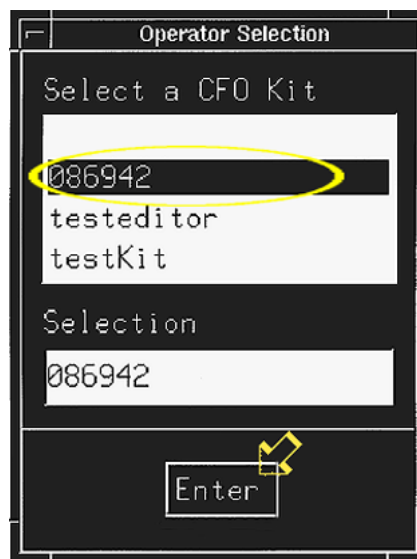

Figure 8
- 106 On the “Select a CFO Kit” menu, highlight the number for the CFO kit being used. See the circle in Figure 8. Click on “Enter.” See the arrow in Figure 8.